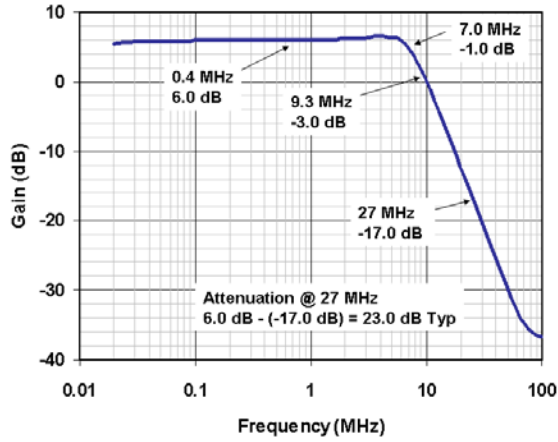

Figure 2. Frequency Response
- The normalized gain is guaranteed by design and characterization. The max normalized gain of +0.8 dB is the result of smooth peaking (pre-emphasis, see figure 2) taking into account the increase of the losses at the highest frequencies into connectors and cable at the output. For frequencies lower than 2 MHz the max normalized gain is 0.4 dB.